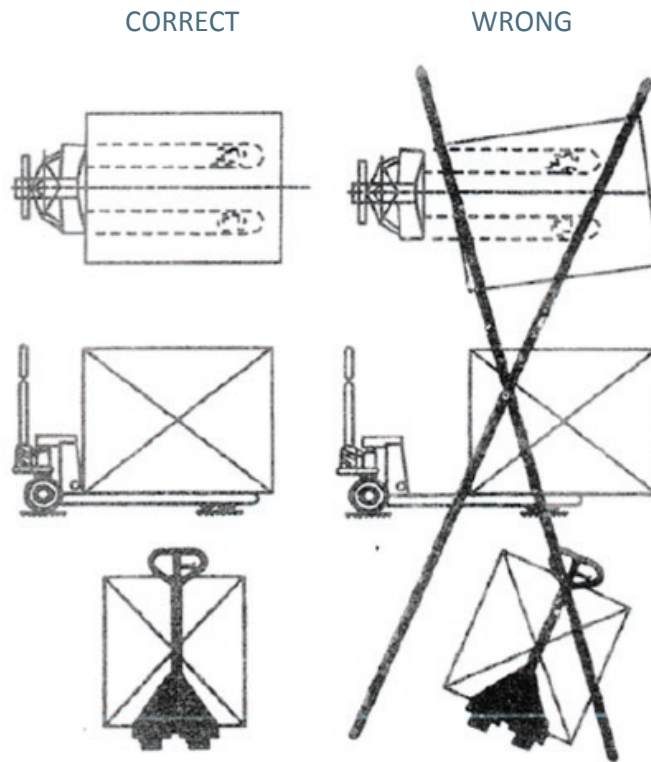

FIGURE 03
- 4.c** - Inspect before use: the wheels (222, 225 and 315), the handle y operating handle (112), the structure (201) and the lock hitch (330).
- 9.c** - You must be aware of the center of gravity weight, avoiding partial load or inclination see item "Form to Use", Figure 03).